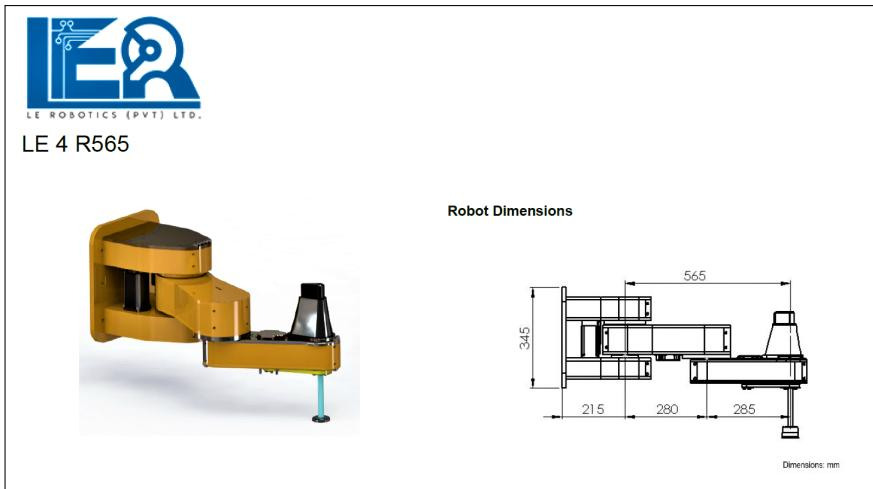

Figure 1.3: Model *LE 4 R565* 4-DOF **SCARA** robot arm?
2. **4 DOF Robots** - Robots with four degrees of freedom (Figure 1.3 depicts such a model)